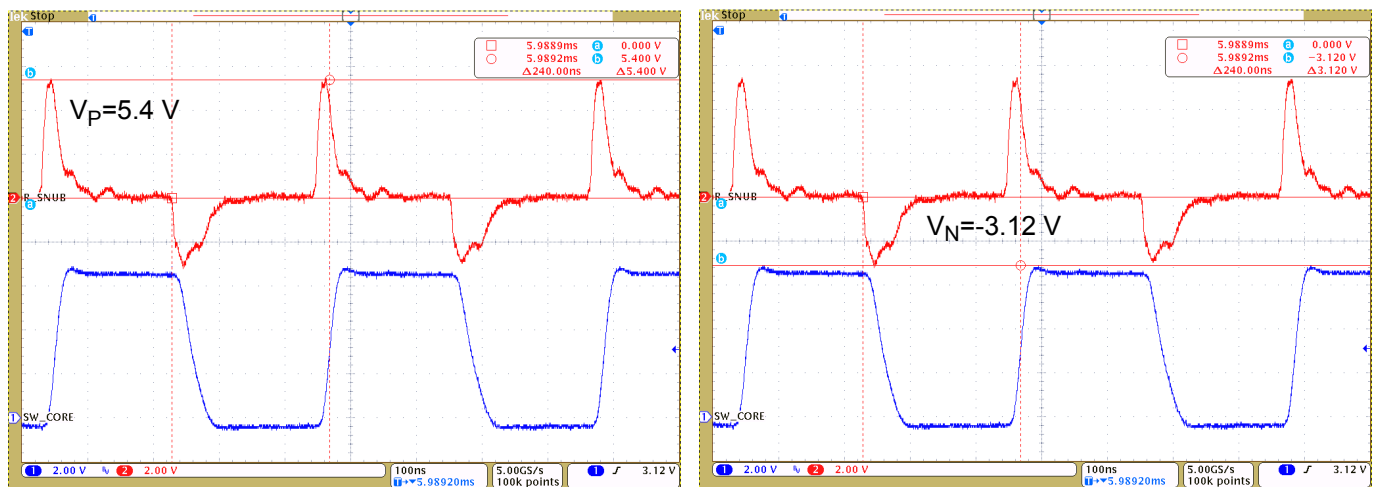

Figure 17. V_{CORE} R_{SNUB} V_P and V_N measurement (on KIT33908AEEVBE)
- From Figure 17, $P(R_{SNUB_VPRE}) = 1/2 \times 4.7\text{ nF} \times (5.4^2 + 3.12^2) \times 2.4\text{ MHz} = 0.219\text{ W}$.